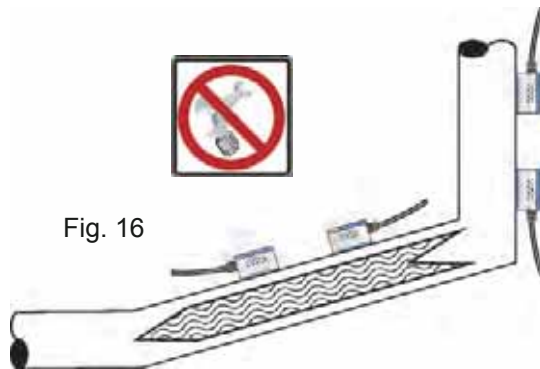

Fig. 16
- vertical pipes with the downward flow, because they may not be completely filled with fluid (fig.16)
- inclined pipes with the downward flow, because they may not be completely filled with fluid (fig.16)